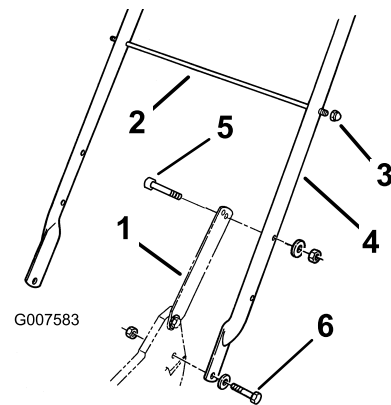

Figure 3
x 1-1/4 inches), washers, and thin locknuts (5/16 inch) (Figure 3).
2. Secure the handle latches to the handle with 2 bolts (5/16 x 1-1/2 inches), washers, and locknuts (5/16 inch) (Figure 3).
3. Slide the bag support rod through the second from the top mounting holes in the handle and secure each end with a cap locknut (Figure 3).